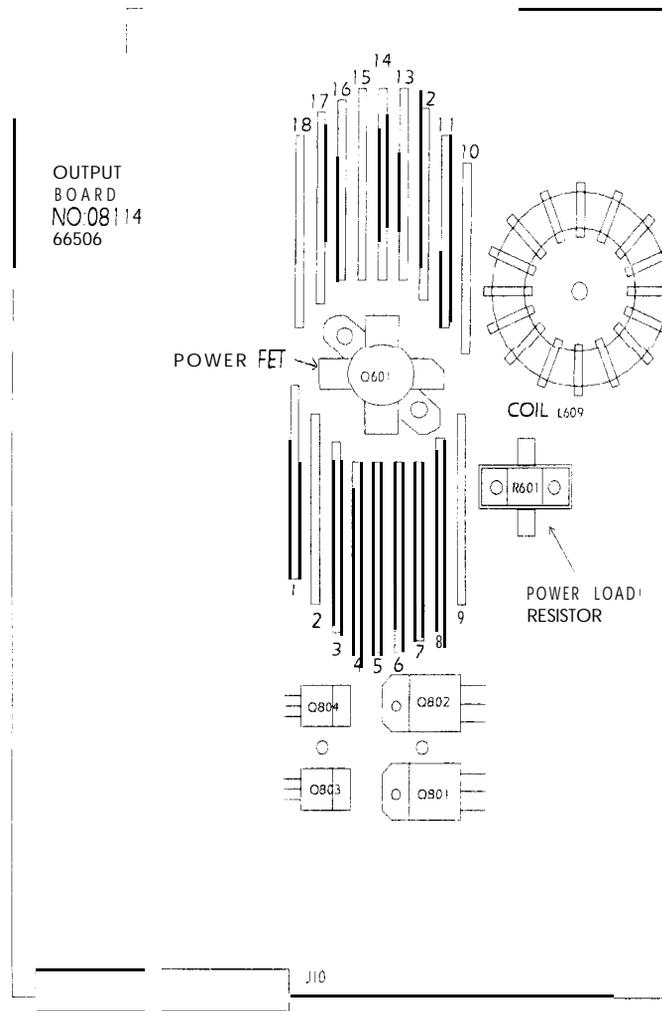

Figure 4-12. Location of the Power Load Resistor and Power FET
10. Remove the 2 screws securing the power FET Q601 to the chassis, The FET is located between the hybrids. See Figure 4-12.
11. Remove the 2 screws securing the power load resistor R601 to the chassis. The power load resistor is located close to one hybrid stage. See Figure 4-12.